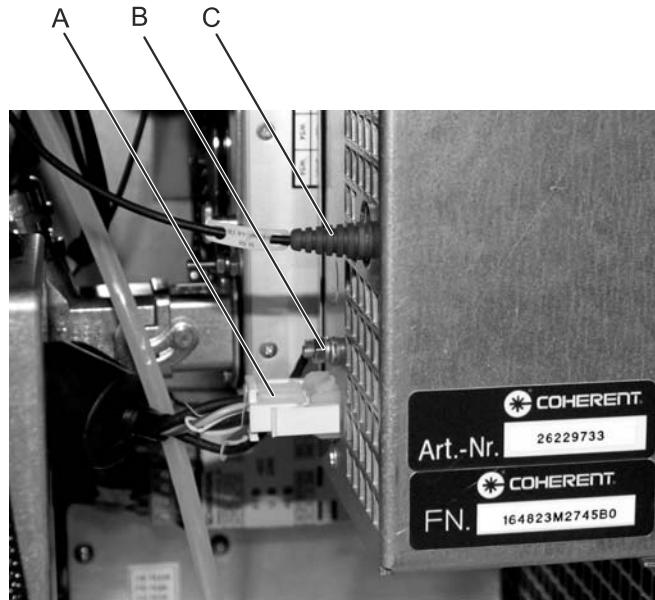

Figure 54: Disconnecting the thyratron supply unit
5. Disconnect the trigger FOL (fiber optic light waveguide) from the thyratron supply unit (see Figure 54, A).